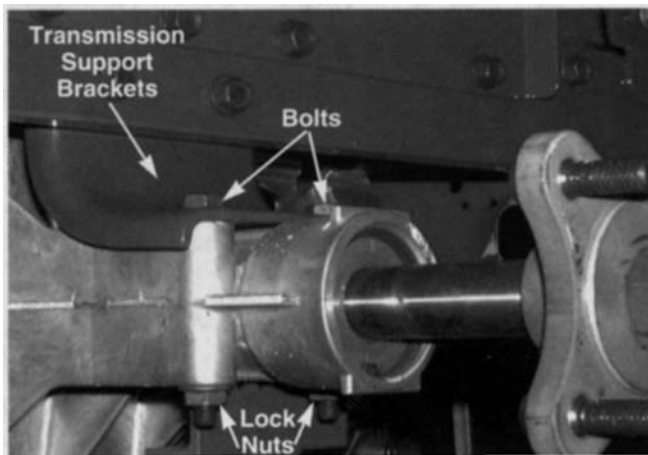

Figure 6-145.
24. Remove all four of the hex bolts and lock nuts securing the hydrostatic transmission to the side transmission support brackets using a 1/2" socket and a 1/2" wrench. See figure 6-145..